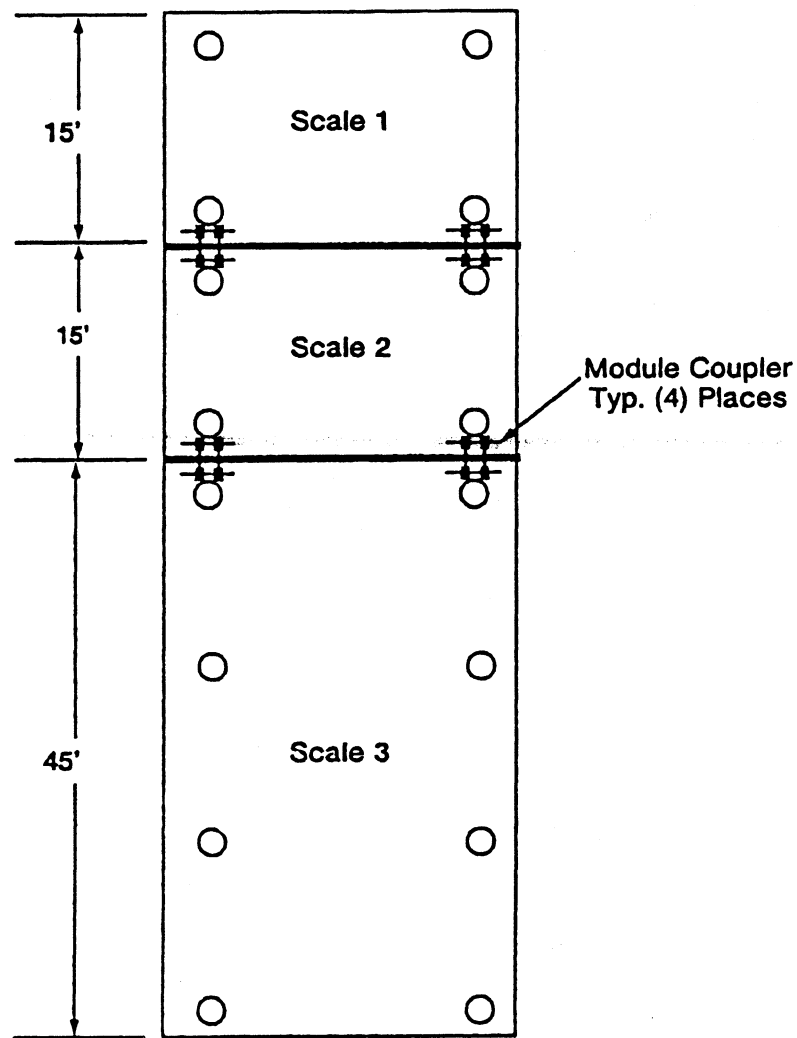

Figure 6.1 Layout Multi-Scale
Two sets of module couplers (rod end bearing/coupling block) are used between the scales. (See Figures 6.1 and 6.2). The couplers hold the modules together so that the end wall checking checks all scales. The coupler articulates so that weight on one scale is not seen by the adjacent module.
6.2.1 Install coupling hardware*. (See Figure 6.1 and 6.2). Hand tighten the coupling block until no "play" exists between shoulder bolts. DO NOT ALTER module position by overtightening block. Tighten jam nut against block.